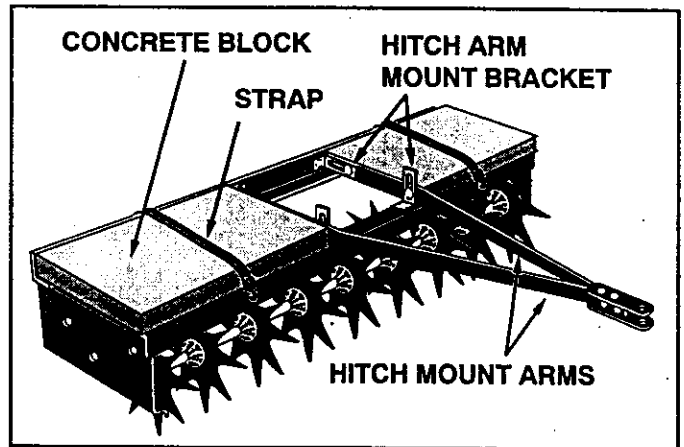

FIGURE 8
- Attach the aerator to the tractor hitch and check to see that the aerator is level. Adjust by loosening the bolts which fasten the hitch mount arms to the hitch arm mount brackets. Raise or lower the position of the arms until the aerator is level. See figure 8.
- To increase spike point depth penetration add weight as required. The aerator frame holds up to three concrete blocks at approximately 35 pounds each. Weights can be secured to frame with straps or other binding material. See figure 8.